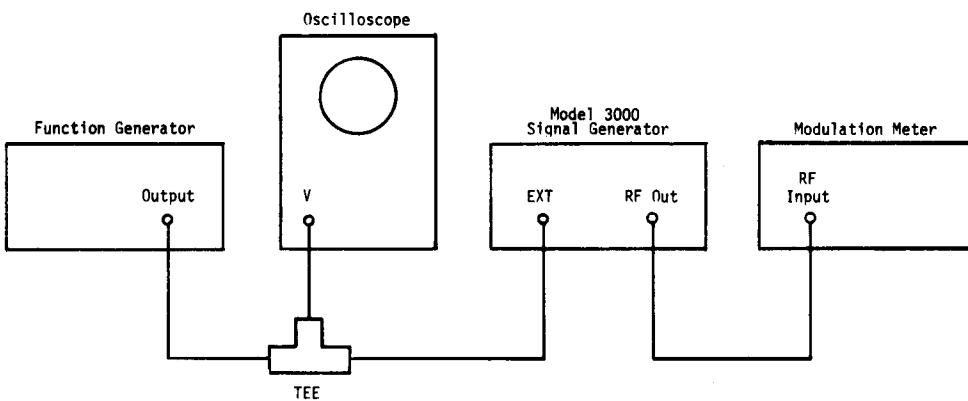

Figure 4-6. FM Bandwidth Setup
- Connect the equipment as shown in Figure 4-6.